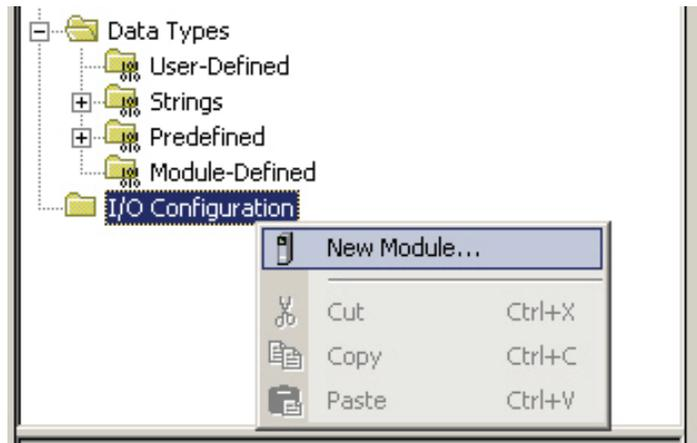

Figure 3.3 Defining A Bridge Module
3. Enter the following information in the Module Properties window that opens. All parameters not listed here are optional. Figure 3.3 shows a completed screen.